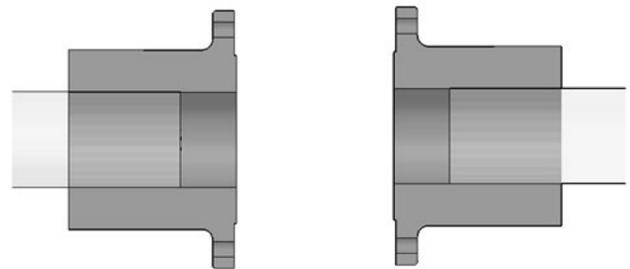

Fig 5.6
- Mount hubs (1.1, 1.2) on the corresponding shafts, by following specific instructions for each type of connection. (See fig 5.6)